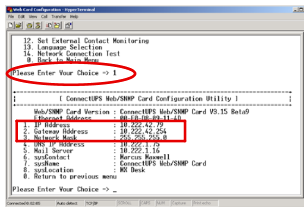

Figure 10. View ConnectUPS Card IP Address
11. Type **1** and press **Enter** to display the Set IP Address, Gateway Address and MIB System Group screen (see Figure 10).